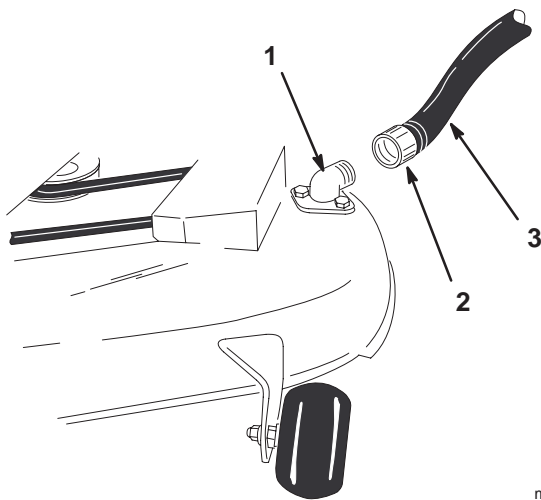

Figure 48
4. Attach the hose coupling to the end of the mower washout fitting, and turn the water on high (Fig. 48).